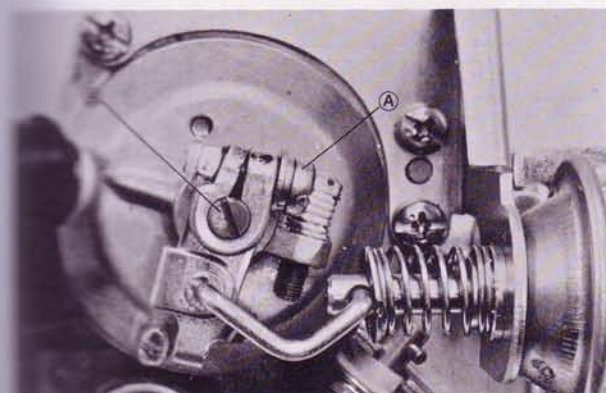

Fig. 4-12 Adjusting choke valve clearance (R)
3. Check the choke valve clearance (R) as shown in Fig. 4-12.
4. If the clearance (R) is not within specifications, first turn (A) then turn (B) to adjust the clearance (R).